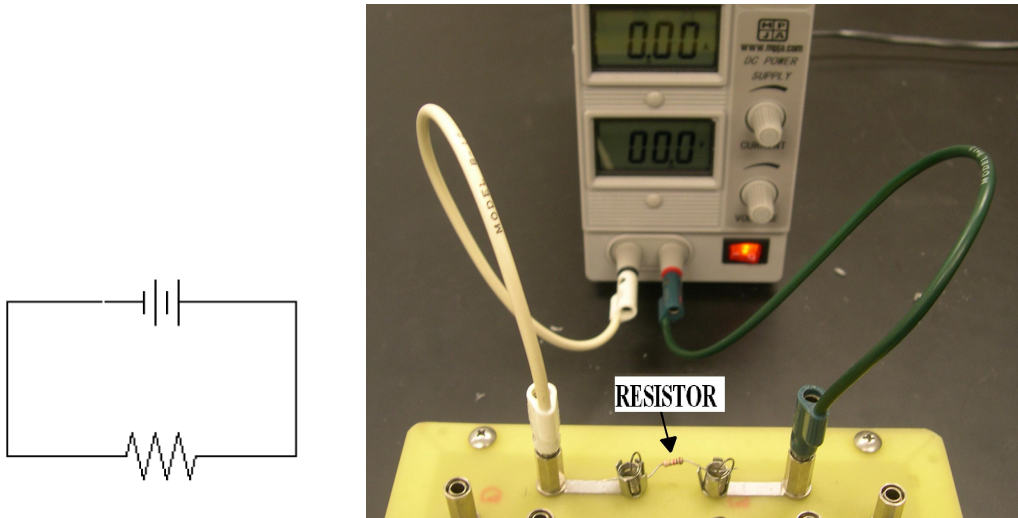

FIG. 9: Building a circuit that includes a power supply and resistor; schematic (left) and in practice (right).
1. Start by building the circuit without any meters. Where two lines meet, you will need two wires. Although it may seem efficient to initially construct the circuit with the meters included, experience has shown that this method often leads to wiring errors. In Fig. 9 we show a simple circuit with a power supply and a single resistor. The green wire is connected to the positive terminal of the power supply and the white wire is connected to the negative terminal.
2. Include an ammeter in the circuit to measure current. Attach a single wire to the “COM” input of your ammeter; in this example, this is the purple wire. Identify the element in your circuit through which the desired current is flowing (in this case the resistor). Unplug the wire (or wires) leading into one end of that element and plug all of them into either the 400 mA or 10 A input of your ammeter, depending on the size of the current you are measuring. In this example, there is only one wire leading to the resistor (the green wire) and we are using the 400 mA setting of the ammeter. Plug the free end of the purple wire into the plug on the breadboard where you removed the circuit’s wire (or wires), that is the place where the green wire was connected in Fig. 9. You have now forced all of the current carried by the wire (or wires) to go through the ammeter in addition to the circuit element of interest. The ammeter is now properly connected in series with the resistor. In Fig. 10 we show our simple circuit with a power supply, a sin-